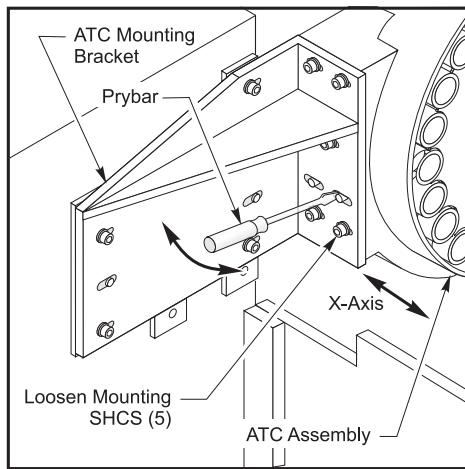

Figure 3-71 ATC Assembly X-axis alignment
5. If necessary, loosen the five ATC mounting SHCS. Refer to Figure 3-71.
6. Insert a pry-bar between the locating pins and the ATC mounting bracket. Adjust the bracket to align the tool holder in the double arm to the center of the spindle in the x-axis. Refer to Figure 3-71
2. Underneath the double-arm, loosen the six SHCS from the lock ring. Insert four new jack screws into the lock ring as shown in Fig. 3-71 (Coat the jack screw threads and tips with moly grease).